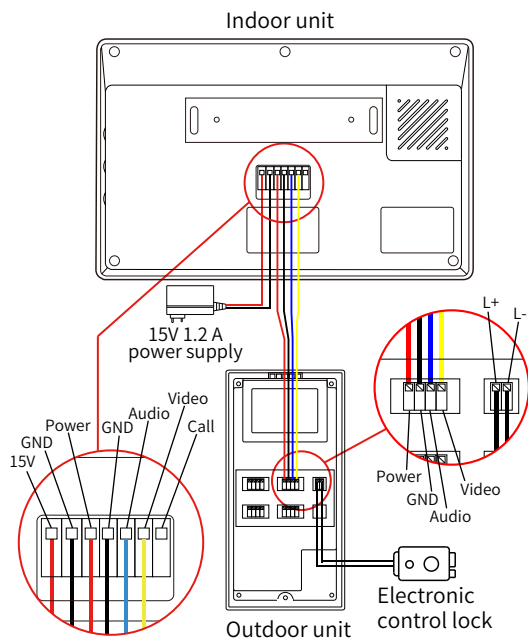
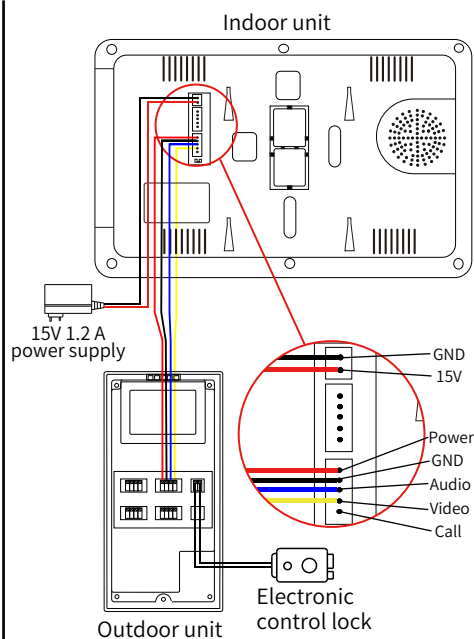

Figure 2
Figure 3
2. Outdoor unit cable connection → The wiring sequence is from left to right: Red (Power) → Black (GND) → Blue (Audio) → Yellow (Video) (Figure 2, Figure 3);